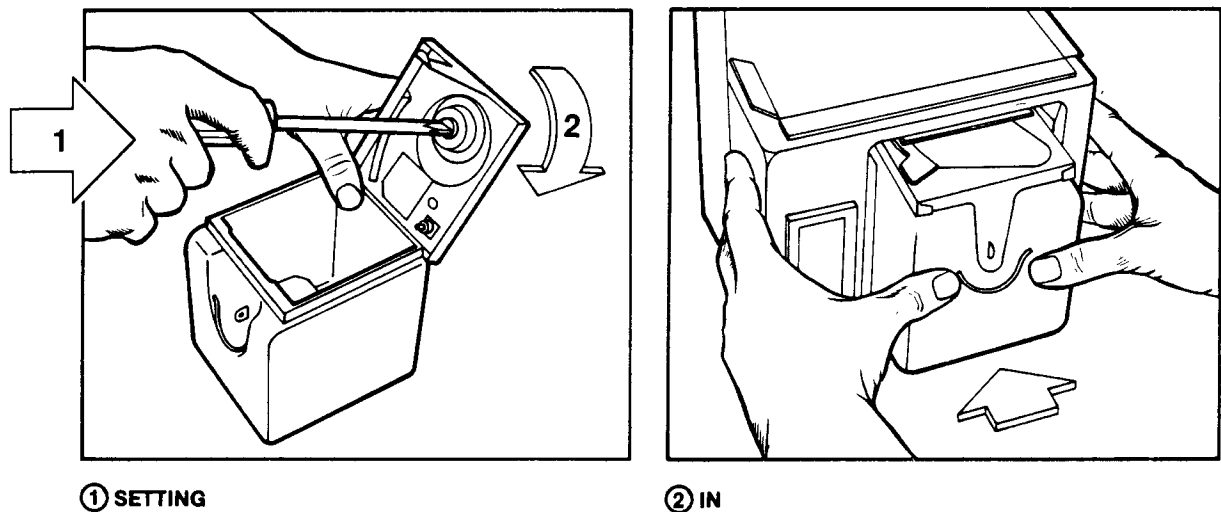

Figure 12 Resetting Coin Box Lock
- If a terminal block is on the power supply board, tighten each terminal block screw so that wires are locked into place. Refer to Figure 12. Gently pull each wire within the terminal block to confirm the connection.
- Push in and reset the lock inside the coin box cover. Refer to Figure 12.
- Place coin box back into coin vault (handle facing out), and push straight in. (Note: When pushing the coin box into the vault, apply some pressure at the top front surface and slightly more pressure at the left side. See Figure 12.)